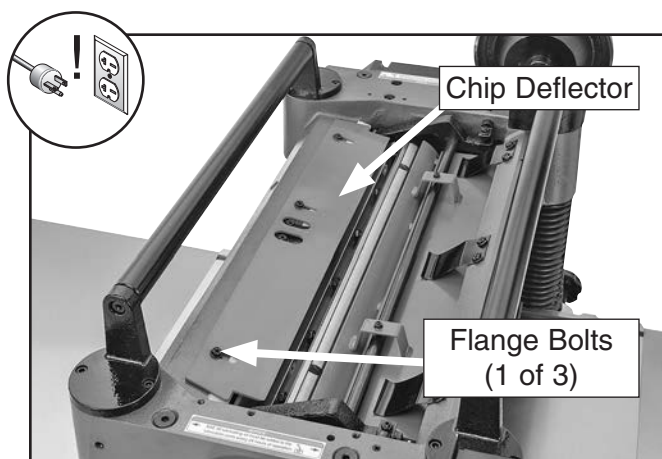

Figure 45. Example of chip deflector and mounting hardware.
4. If distance measured in **Step 3** is *not* equal to correct chip deflector gap setting, then loosen flange bolts (see **Figure 45**) that secure chip deflector and adjust gap to correct setting.